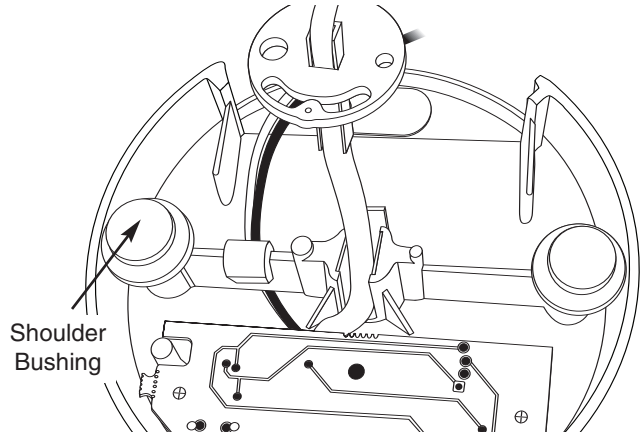

Figure 5
- 2). Insert the spindle into the center of the keypad assembly making sure that the cable is routed in the groove of the spindle, see *Figure 5*.
- It is important to make sure the cable will not rub on the dial plate after assembly, see *Figure 5*.